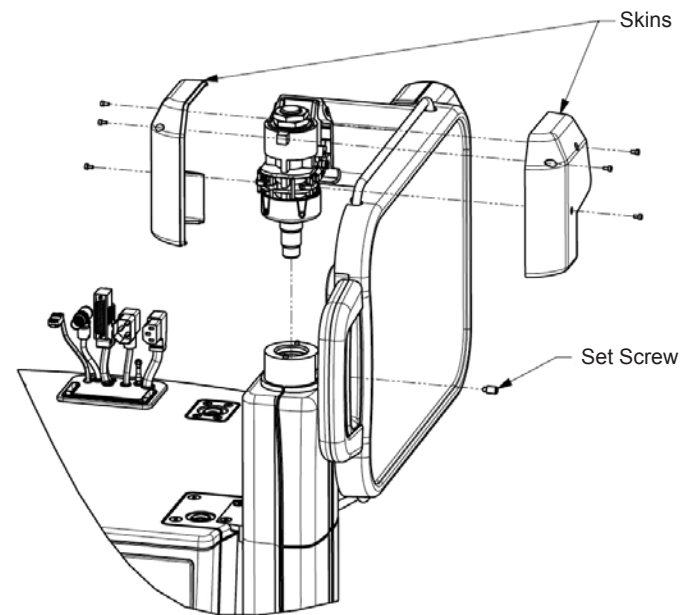

Fig 7-7. Attaching Tray Arm to Tray Tower
- 16 Refer to Fig 7-7. Remove skins from each side of the main tray arm joint (six 2.5 mm hex screws).